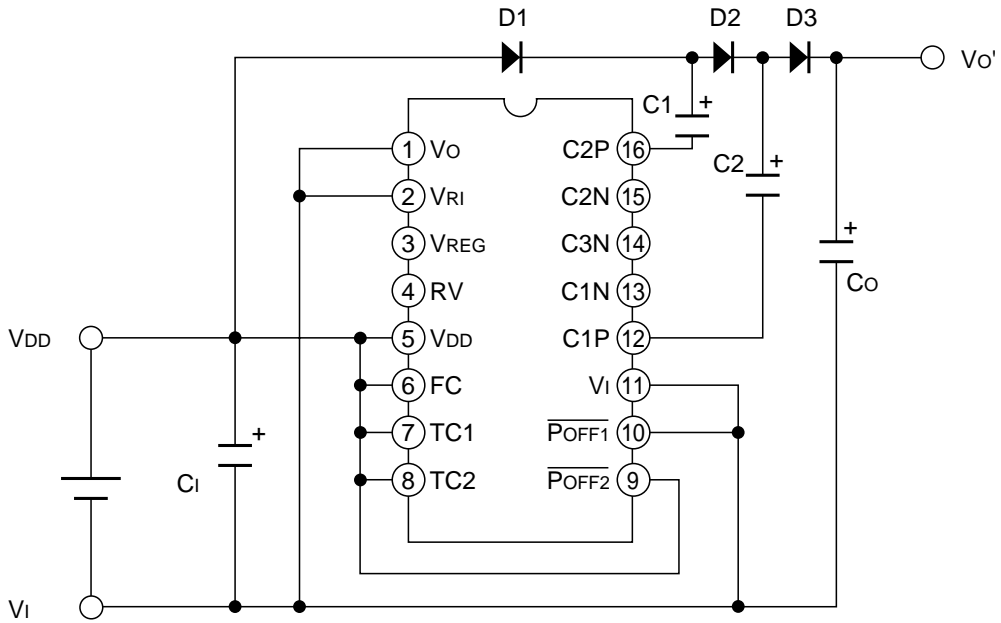

Figure 2.14 Wiring example of positive voltage conversion (3-time boosting)
The S1F76540 can also boost up a voltage to the positive potential using external diodes. In such case, however, the regulator function is unavailable. Figure 2.14
- ◇ Setup conditions of Figure 2.14
- To boost up a voltage two times, remove capacitor C1 and diode D1 of Figure 2.14, and connect the anode of diode D2 to the VDD pin.
- When diodes are used for voltage boosting, the characteristics of diodes directly affect on the voltage boosting characteristics. The forward voltage drop (V_F) of diodes can reduce the booster output voltage. As the example of Figure 2.14 uses three diodes, the drop of “ V_F ” voltage multiplied by three occurs. The booster output voltage is expressed by equation (5).